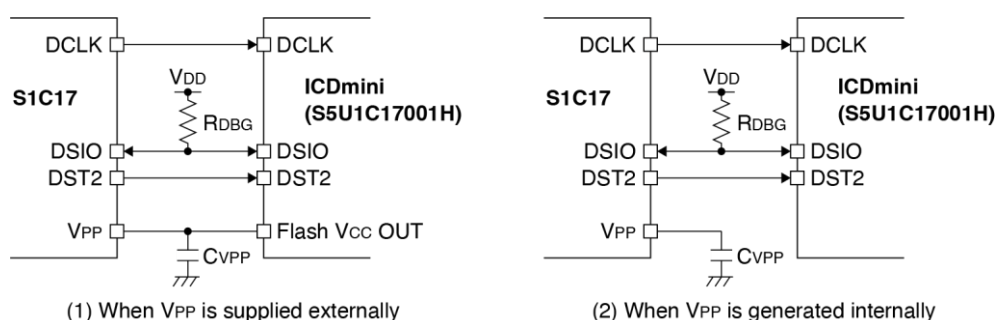

Figure 4.3.3.1 External Connection
The Flash memory supports on-board programming, so it can be programmed with the ROM data by using the debugger through an ICDmini. Figure 4.3.3.1 shows connection diagrams for on-board programming.
When reprogramming the EEPROM, the EEPROM controller (EEPROMC) uses the V_{PP} voltage generated internally. Connect C_{VPP} to the V_{PP} pin as shown in “(2) When V_{PP} is generated internally” of Figure 4.3.3.1. The notes described in Section 4.3.3 are also applied to EEPROM reprogramming.